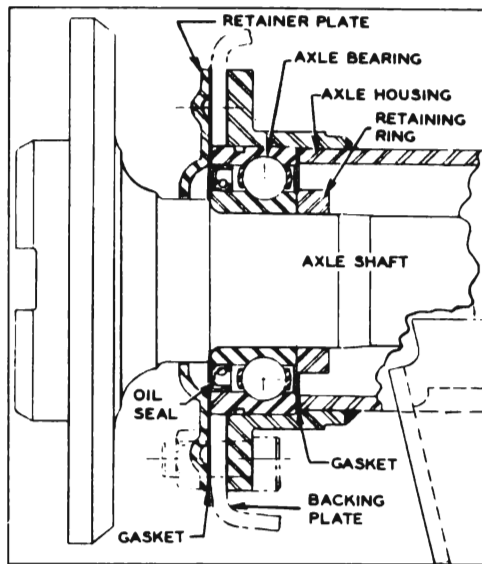

Figure 6-8—Axle Shaft and Bearing Assembly
1. Install new gasket at bearing shoulder in housing. See Figure 6-8.